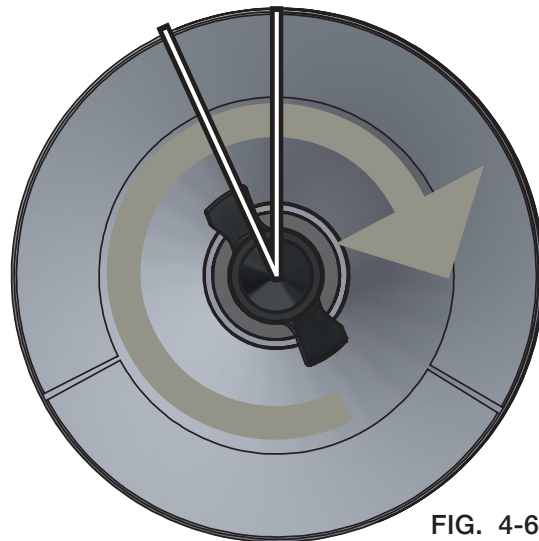

FIG. 4-6
4. Rotate the drive dog so the driving edge is at 11 o'clock position when the finishing edge of the flighting is at 12 o'clock position. See FIG. 4-6.